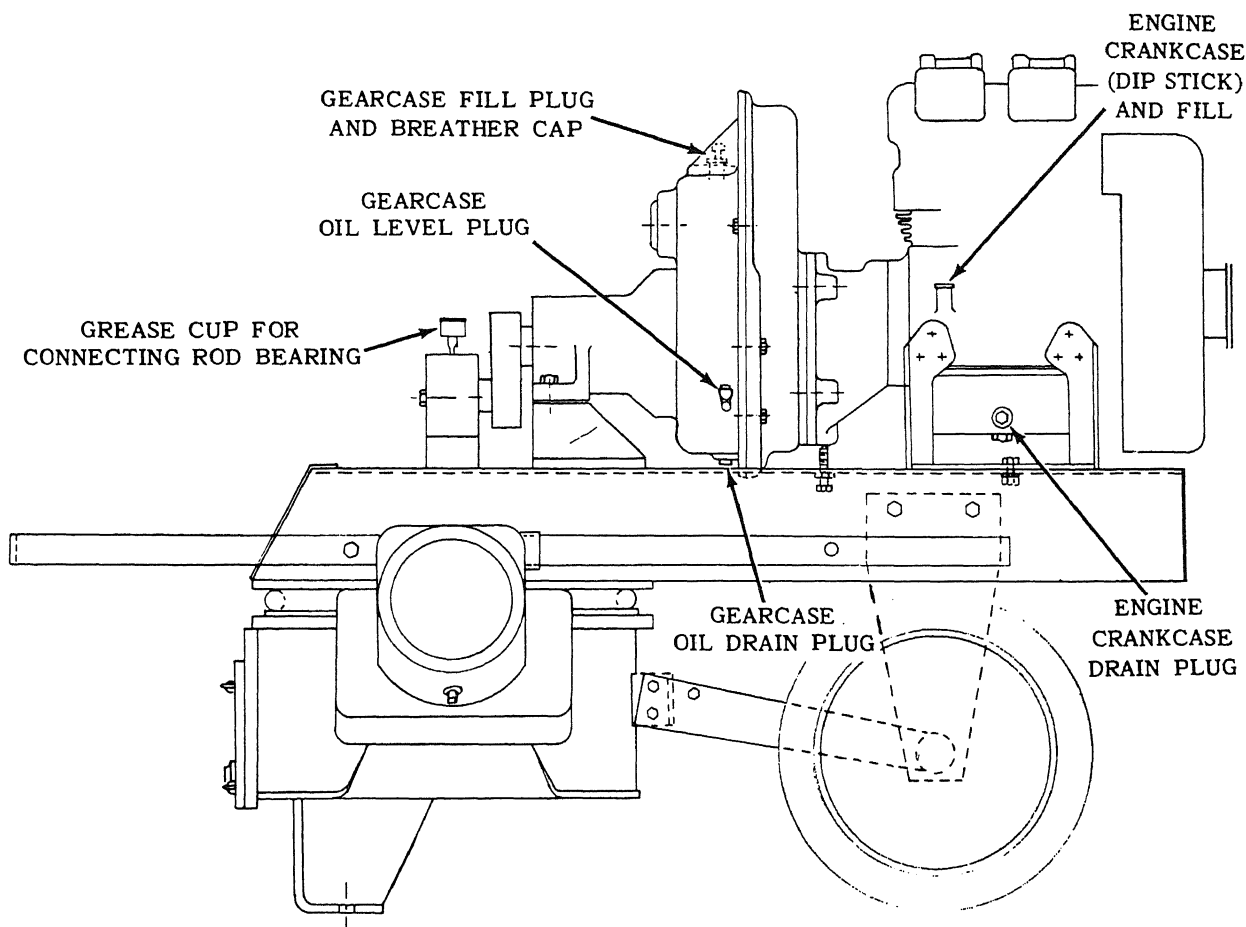

FIGURE 9
6. Lubrication before use - The engine crankcase, pump gearcase and connecting rod bearing grease cup are filled to level points at the factory. However, before operation these points should be checked for oil levels. Refer to lubrication chart, Page 7, Fig. 9 for data.